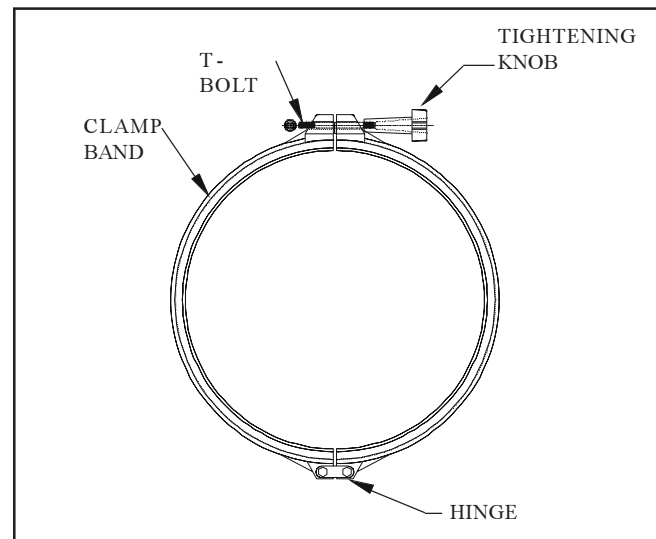

Figure 5- C Series Clamp Band
4. Holding the ends of the filter clamp apart, position the hinged segment of the filter clamp over both upper and lower tank flanges. Bring the ends of the filter clamp together, while inserting the T-bolt into the tightening knob (see Fig. 5). Partially hand tighten and recheck filter clamp for proper seating on tank flanges by visually inspecting around the entire circumference of the filter clamp band.